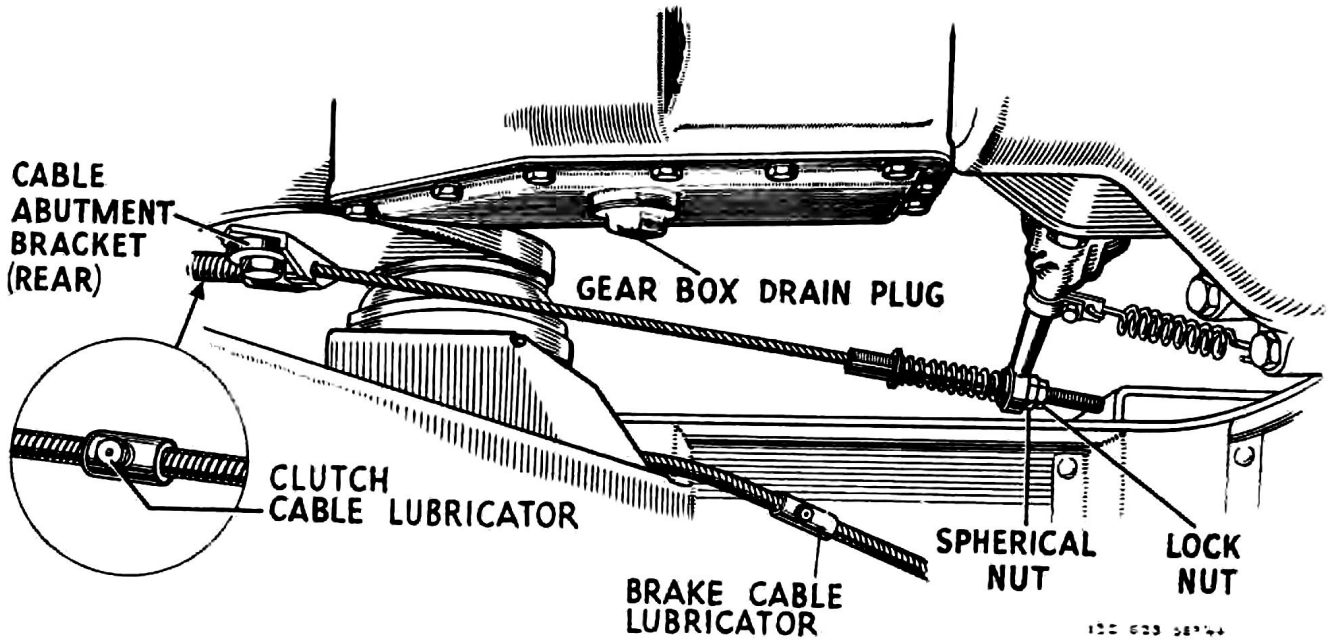

Fig. 16.—CLUTCH PEDAL ADJUSTMENT.
1. From underneath the car locate the spherical nut securing the cable to the clutch withdrawal lever. (Fig. 16.)
3. Unscrew the drain plug (Fig. 16) and allow the lubricant to drain into a container placed underneath.